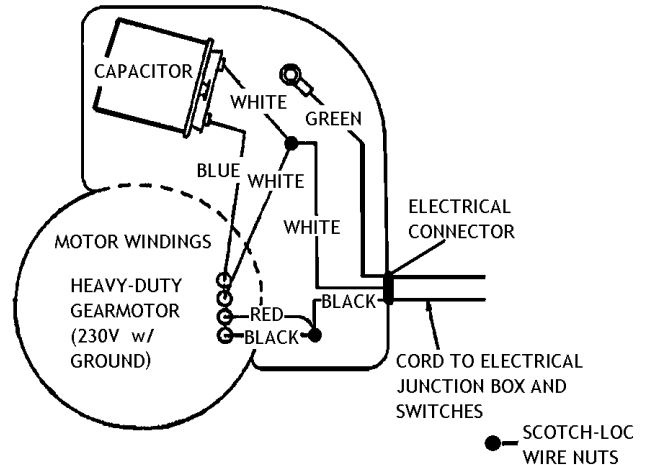

Figure 27 - Gearmotor Junction Box Wiring Diagram
- 59 Insert 3/8" electrical connector from hardware sack into hole on side of gearmotor junction box. **Figure 27**.
- 62 Connect loose, short white wire with female spade (located in plastic sack on junction box wire) to terminal of capacitor that is included inside gearmotor junction box. **Figure 27**.
- 63 Connect blue wire with female spade from gearmotor to terminal on opposite side of capacitor. **Figure 27**.
- White wire from step 62. **Figure 27**.
- Red wire from gearmotor. **Figure 27**.